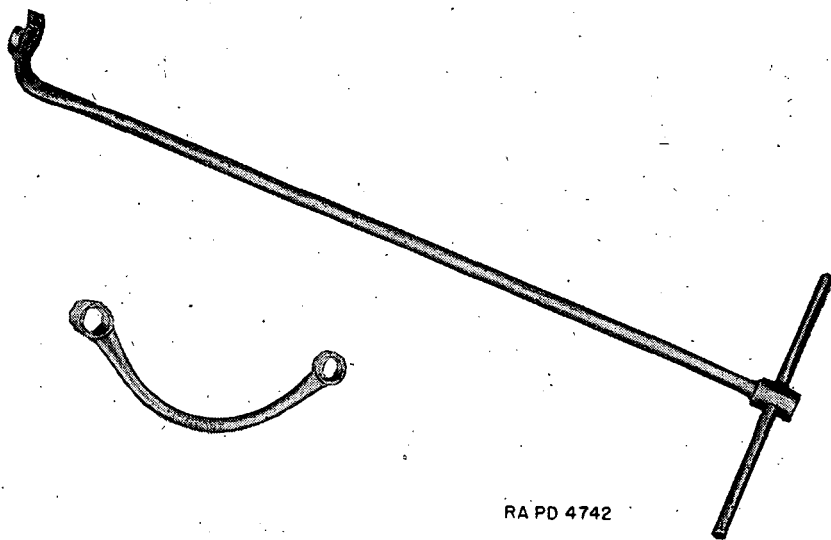

FIGURE 29.—Carburetor and starter wrenches.
d. Removal (fig. 29).—When it becomes necessary to remove a defective carburetor, use the following procedure: